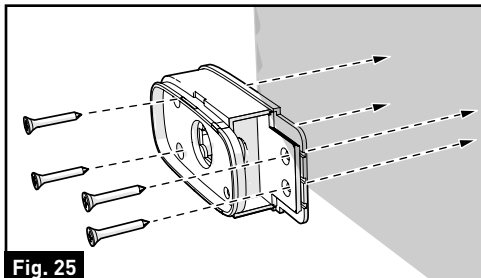

Fig. 25
5. Secure the traffic light base on the vehicle wall using the four flat self-tapping screws (quad drive flat head #6 x 3/4" self-drilling wood screw). (Fig. 25)